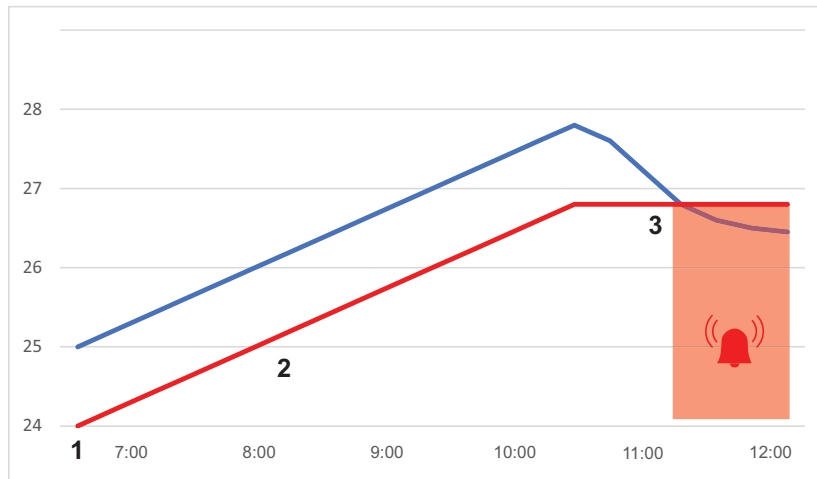

Figure 4.12. TrakLo alarm behavior
- The initial TrakLo alarm limit is set at 1°C below the current patient temperature (1 in Figure 4.12). The lowest the TrakLo alarm limit can be set to by the system is 13°C (54.5°F). The TrakLo alarm limit will be automatically set to 13°C only if the initial patient temperature is at or below 14°C (57.2°F).
- As the patient temperature rises, the TrakLo alarm limit also rises to maintain 1°C below the patient temperature (2 in Figure 4.12).
- If the patient temperature drops by more than 1°C, the TrakLo alarm sounds. The TrakLo alarm limit remains the same, at the highest recorded patient temperature since the TrakLo alarm was activated (3 in Figure 4.12).